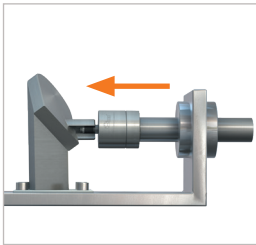
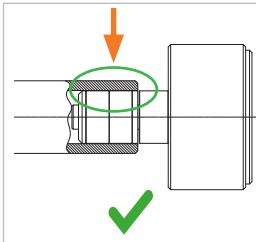
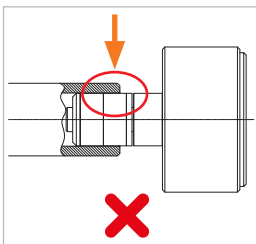

Figure 1
Figure 2
Figure 3
- ▶ Be careful to place the connector straight into the test piece (Figure 1). The front seal (Pos. 7) must no longer be visible (Figure 2 and Figure 3). Doing so will prevent any damage to the front seal caused by any sharp edges on the test piece and ensure a correct connection.